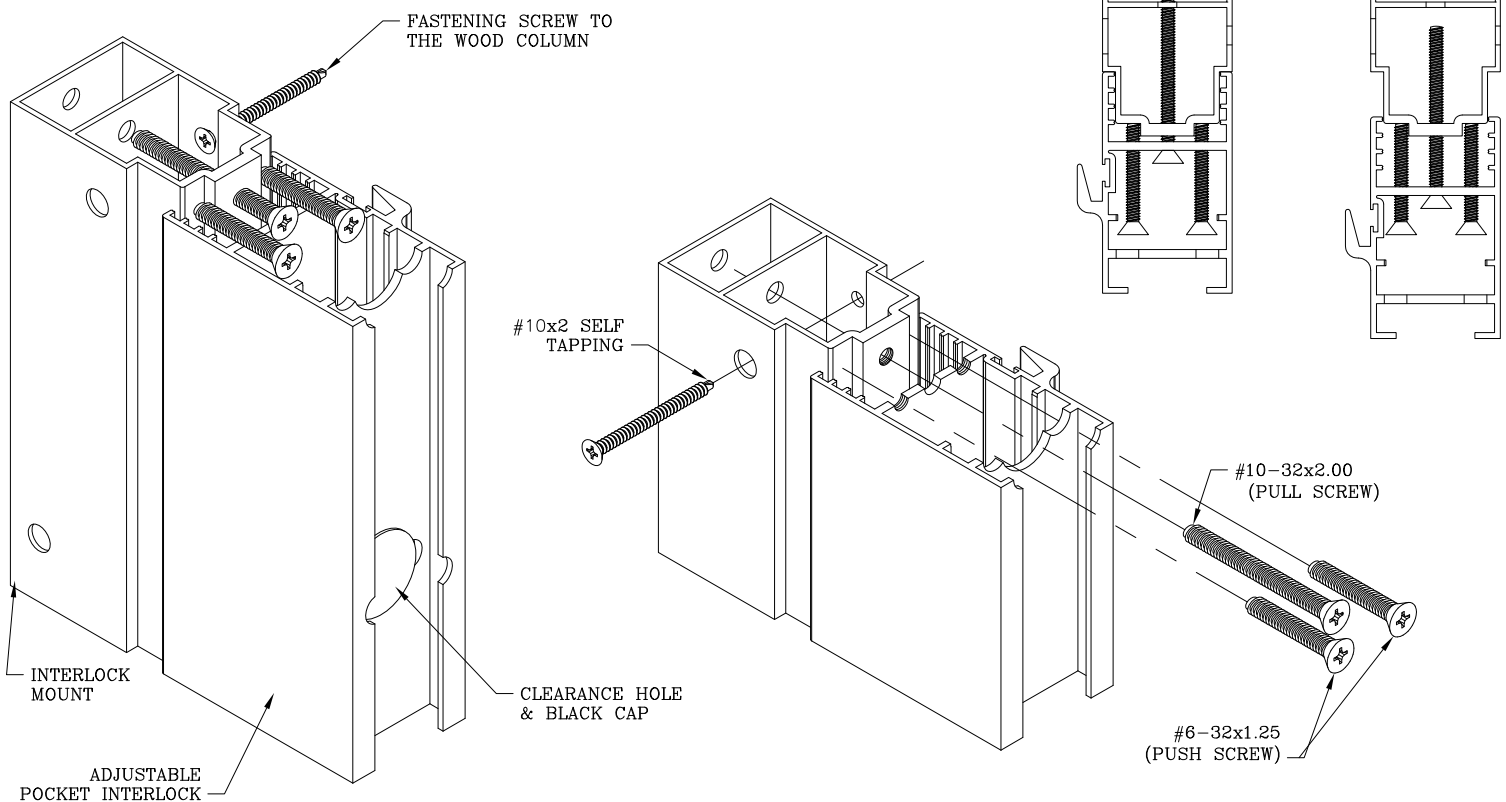

Fig 7B-A
5. If MSD is a pocket door, push all panels away from the pocket. Secure the pocket panel against the pocket interlock. Refer to page 7B. (Fig 7B-A)
Repeat the adjustment process for every hole, then replace all of the black, hole covers. (Fig. 7B-A)